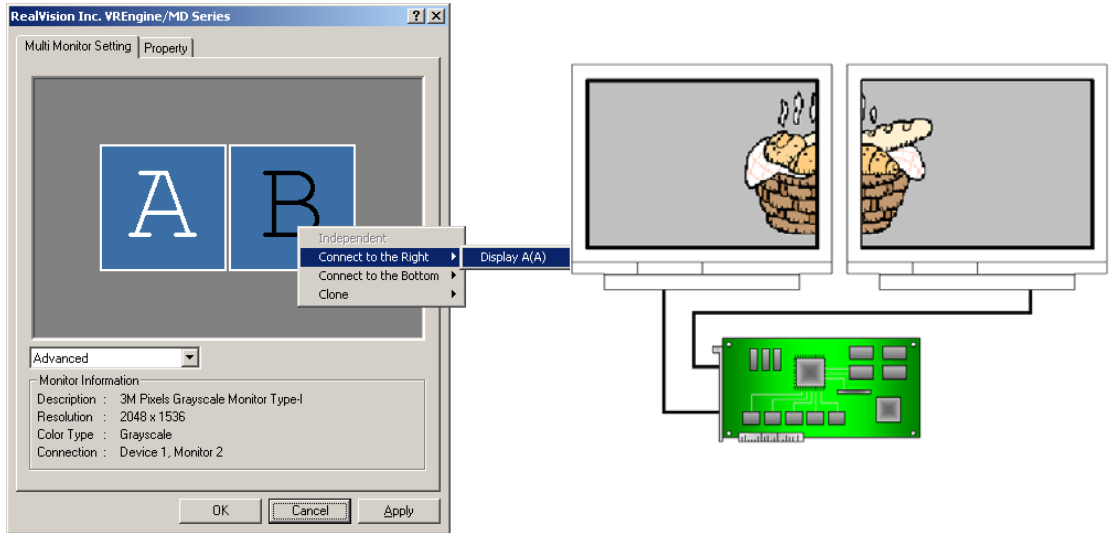

Fig. 5.14 Connect to the right
**{Connect to the right}** is the command that connects the selected monitor to right hand side of target monitor. Select as shown in Fig. 5.14, B-monitor will be connected to right hand side of A-monitor, and two monitors are made into one virtual monitor.